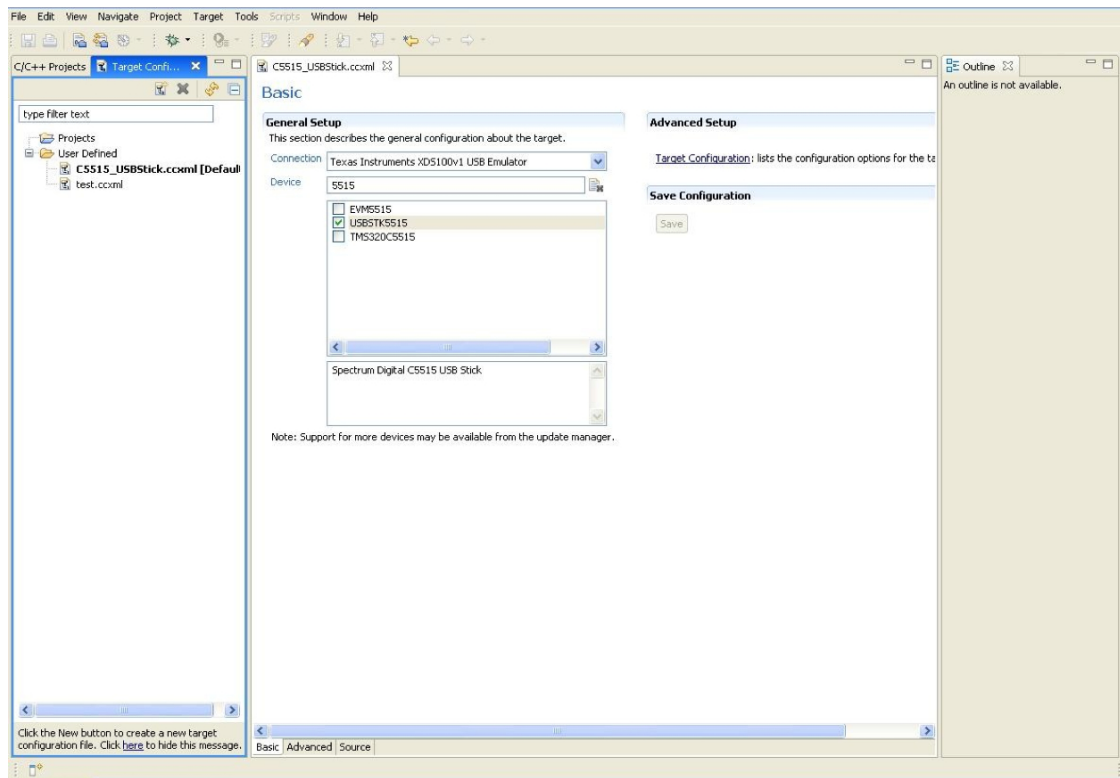

Figure 3: CCS v4 target configuration window.
- Click the **Save** button to save the configuration (see Fig. 3).